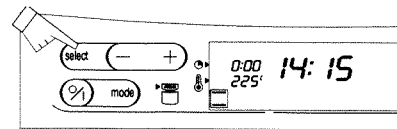

Fig. 5
4. Press the  position once to set the cook time (fig. 5).